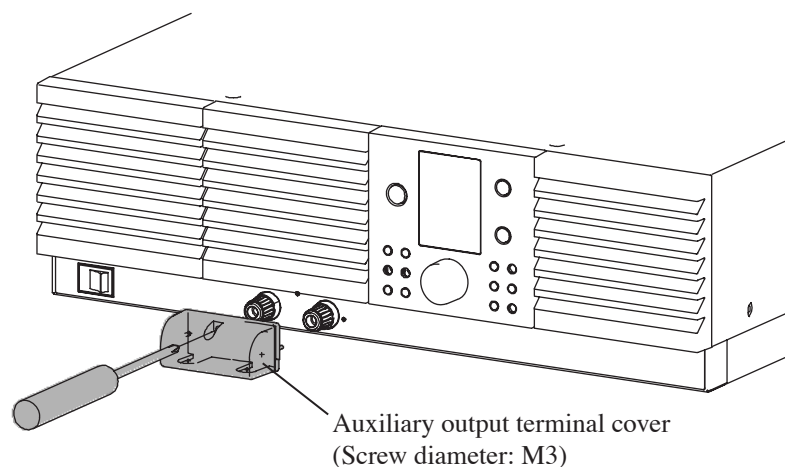

Fig. 3-15 Removing and reinstalling the auxiliary output terminal cover (PAM series 2kW model)
⚠ WARNING • Models equipped with an auxiliary output terminal have a cover provided for the terminal. Even when no load is connected to the auxiliary output terminal, install the cover on the terminal when the unit is in use to ensure safety. For installation of the auxiliary output terminal cover, see Fig. 3-15
3. Remove the auxiliary output terminal cover. See Fig. 3-15.
Fig. 3-15 shows an example of the 2kW model. See Fig. 3-15 for the 4kW model also. Putting on and taking off the auxiliary output terminal cover are the same as the 2kW model.